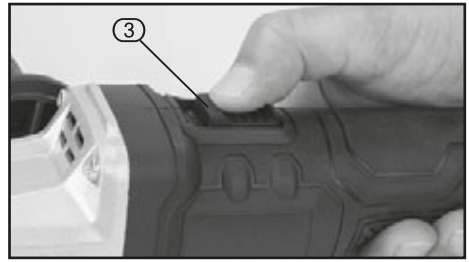

FIG.6
10.1 ON/OFF SWITCH - FIG. 6
- Push the switch (3) forward to start the grinder.
- To stop the grinder, release the switch by pushing down on the back of the switch (3).